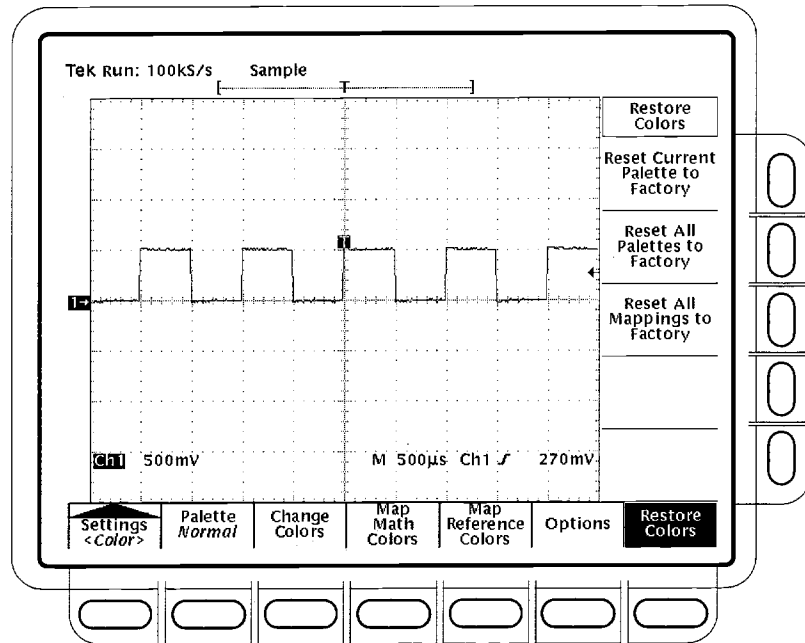

Figure 3-24: Display Menu — Restore Colors
1. TDS 600B models: Press the main menu **Restore Colors** item. (See Figure 3-24.)